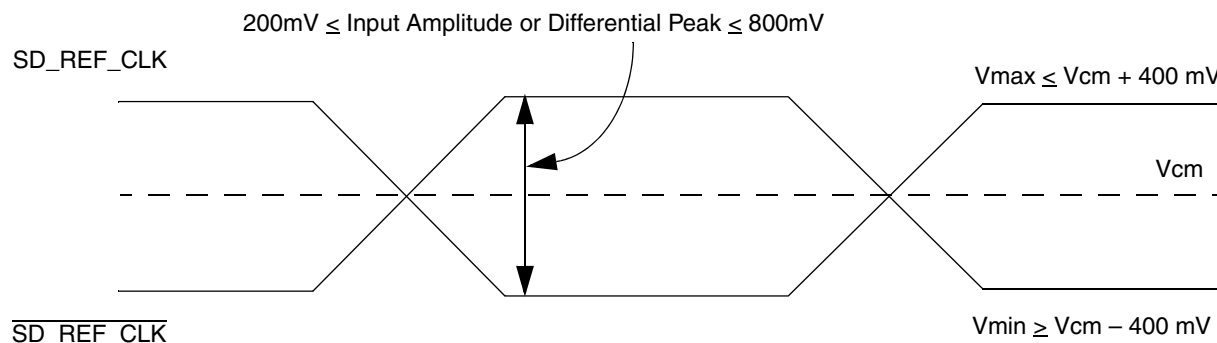

Figure 18. Differential Reference Clock Input DC Requirements (External AC-Coupled)
- For **external AC-coupled** connection, there is no common mode voltage requirement for the clock driver. Since the external AC-coupling capacitor blocks the DC level, the clock driver and the SerDes reference clock receiver operate in different command mode voltages. The SerDes reference clock receiver in this connection scheme has its common mode voltage set to XCOREVSS. Each signal wire of the differential inputs is allowed to swing below and above the common mode voltage (XCOREVSS). Figure 18 shows the SerDes reference clock input requirement for AC-coupled connection scheme.